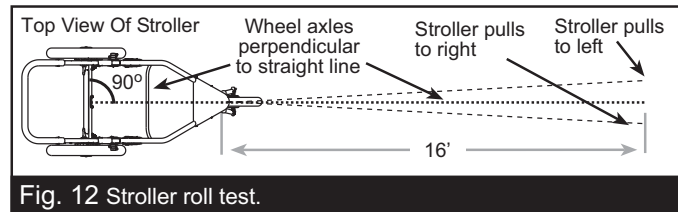

Fig. 12 Stroller roll test.
- Note: Tracking adjustment can only be performed with the stroller fork locked out (Jog Mode). Roll test the stroller as described below. It is recommended you have someone assist with this task in order to catch and return the stroller. Fig. 12 illustrates the roll test process.*
below until tracking is satisfactory. Fig. 12 illustrates how to interpret the results.